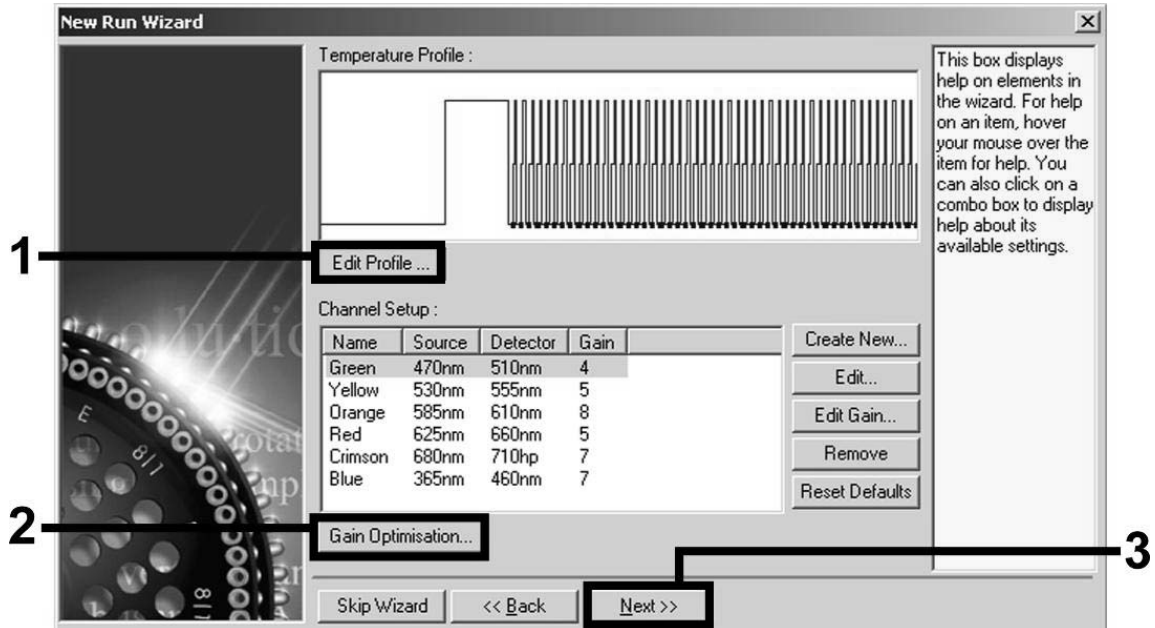
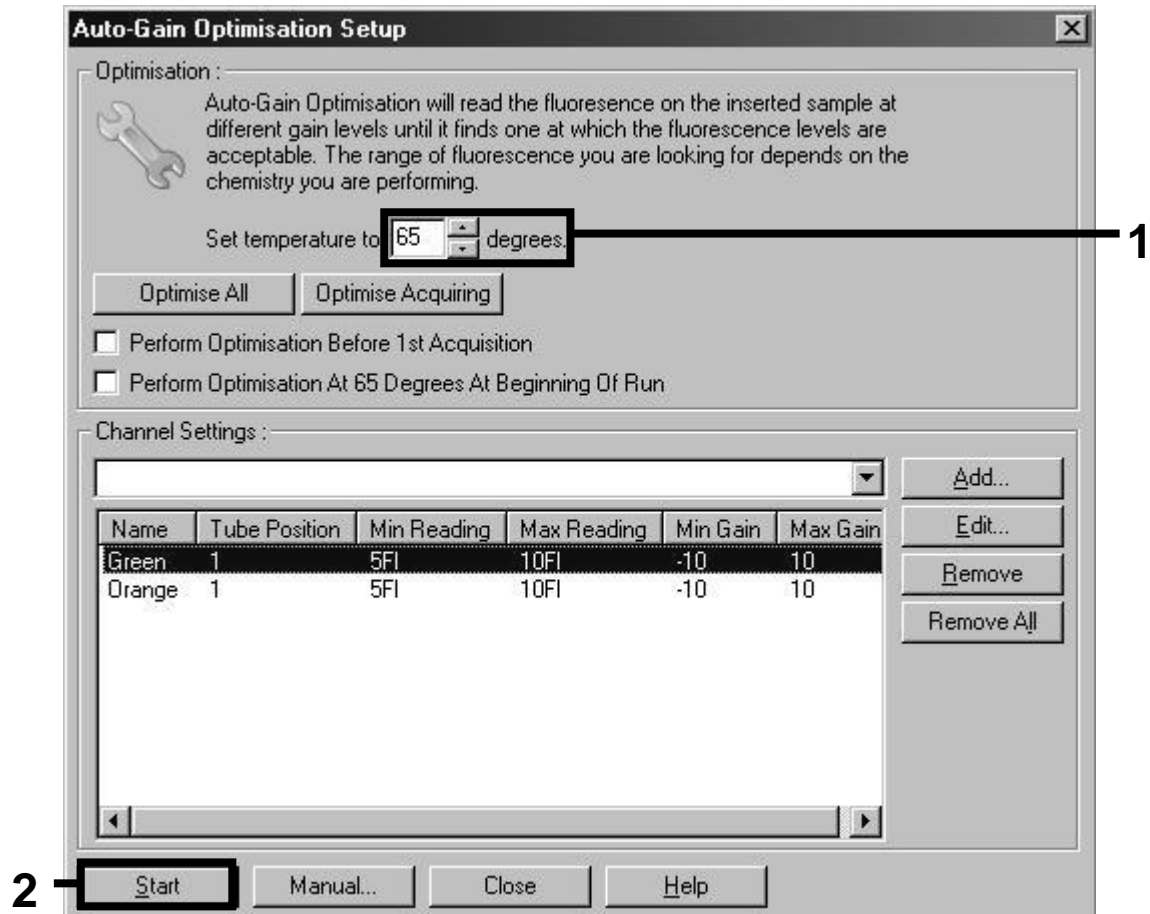

Figure 3. Editing the profile.
Figure 6. Adjusting the fluorescence channel sensitivity.
Adjusting the fluorescence channel sensitivity	Figure 6
- Click the "Edit Profile" button in the next "New Run Wizard" dialog box (Figure 3), and program the temperature profile as shown in Figures 3–5).
9. The detection range of the fluorescence channels has to be determined according to the fluorescence intensities in the PCR tubes. Click "Gain Optimisation" in the "New Run Wizard" dialog box (see Figure 3) to open the "Auto-Gain Optimisation Setup" dialog box. Set the calibration temperature to 65 to match the annealing temperature of the amplification program (Figure 6).